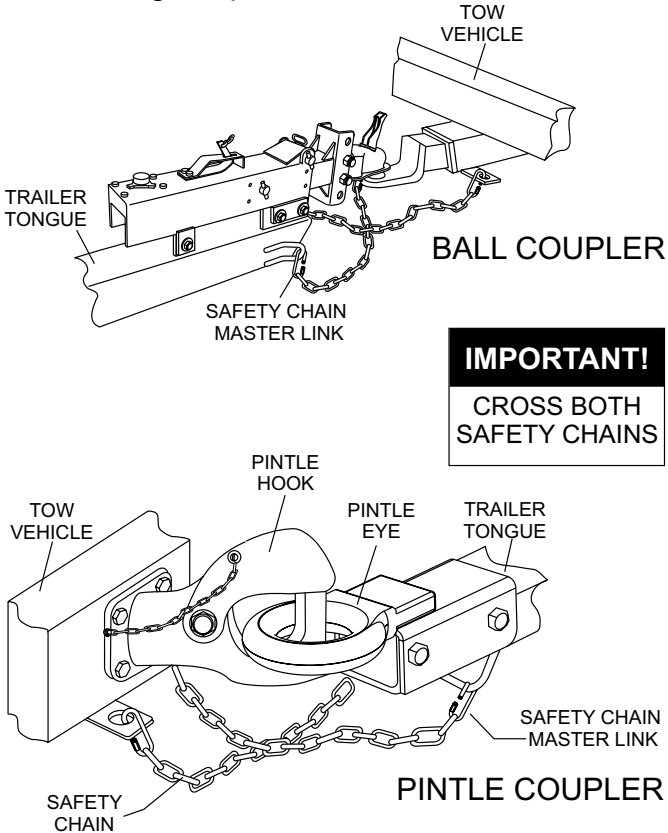

Figure 10. Safety Chain Attachment
- cross underneath the coupler (see Figure 10).